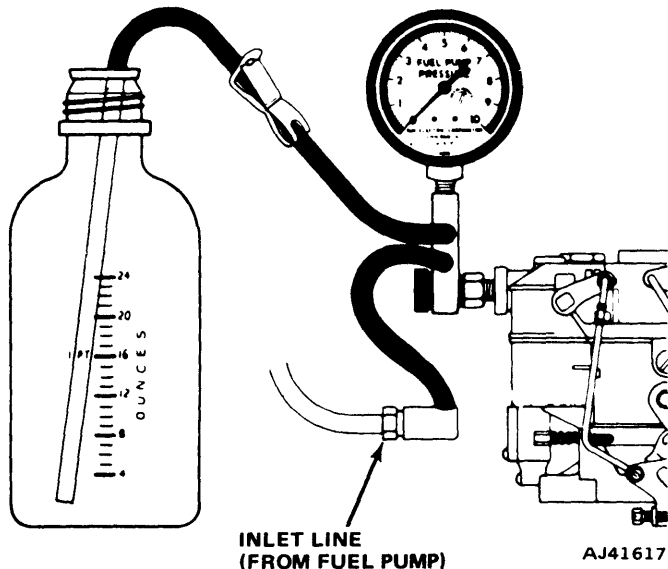

Fig. 4-9 Fuel Pump Testing
- (4) Connect pressure gauge, restrictor, and flexible hose (fig. 4-9) between fuel filter and carburetor.
- (5) Position flexible hose and restrictor so fuel can be discharged into suitable graduated container.
- (6) Before taking pressure reading, operate engine at curb idle rpm and vent the system into the container by momentarily opening hose restrictor.
- (7) Close hose restrictor, allow pressure to stabilize, and note gauge reading. Gauge should indicate 4 to 5 psi for six-cylinder engines, and 5 to 6.5 psi for eight-cylinder engines.